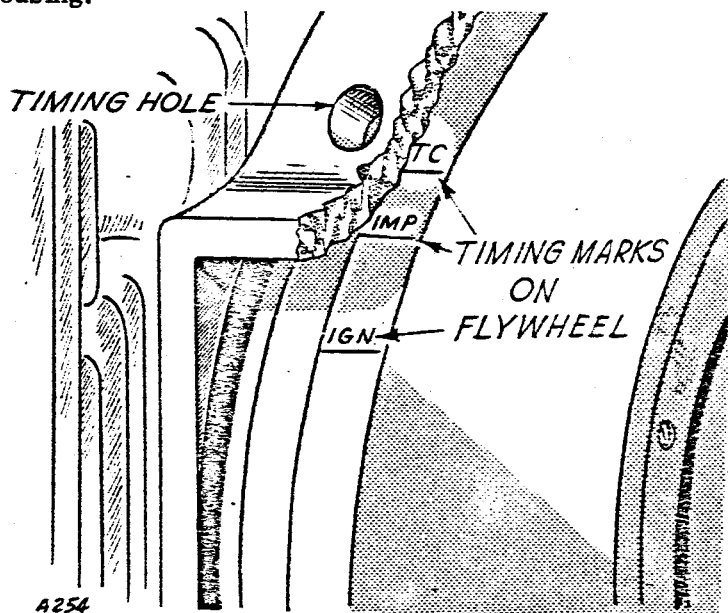

Fig. 21 Ignition Timing Marks
**IGNITION TIMING.** - Correct ignition timing is important to good engine performance. The ignition timing should be checked after servicing or replacing the magneto contact points. Refer to Fig. 21.